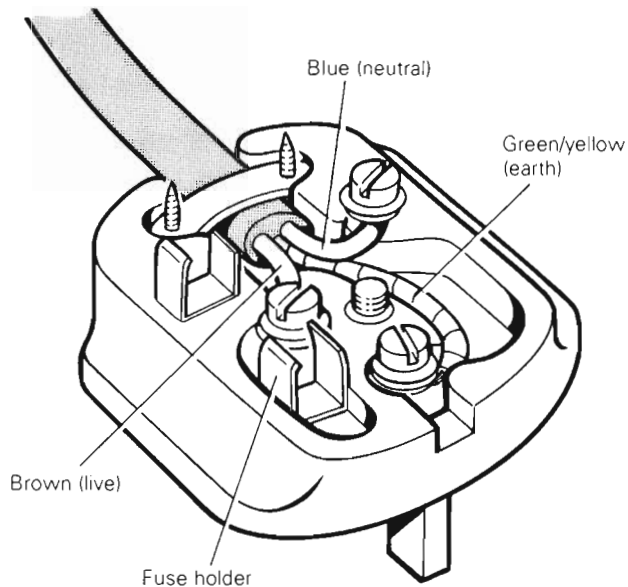

Figure 8.1 Wiring a plug.
18. The three core flexes should be connected to a three pin plug as follows (see Figure 8.1):